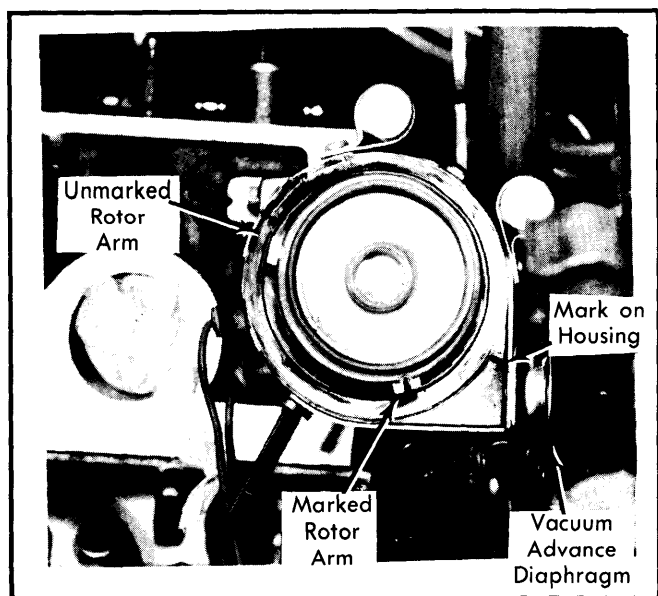

Fig. 5 Installing Distributor
4) Tighten access plug, gear case and rear bearing cover plate bolts. Rotate crankshaft to bring No. 5 (center, right bank) piston to Top Dead Center and align notch in crankshaft pulley under "10" mark on timing plate. With vacuum advance diaphragm to rear and unmarked rotor arm to front of engine, install distributor. Align rotor arm marks and distributor body at 4 o'clock position. Snug securing clamp. See Fig. 5.